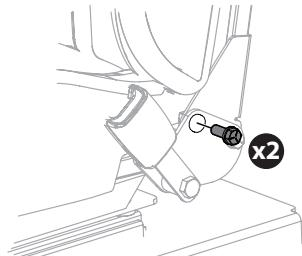

Figure 11
- Secure with two screws (one right side, one left side) removed in Step 2 (Figure 11).